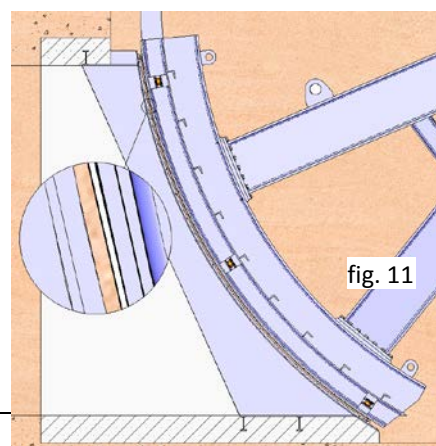

fig. 11
- To correctly position the stopboard on site, insert provisional chocks on the face of the stopboard and support the unit on the concreted mouth (fig. 11). The dimension of these will chocks will be defined in the detailed dimensions in the diagram supplied by CMO.